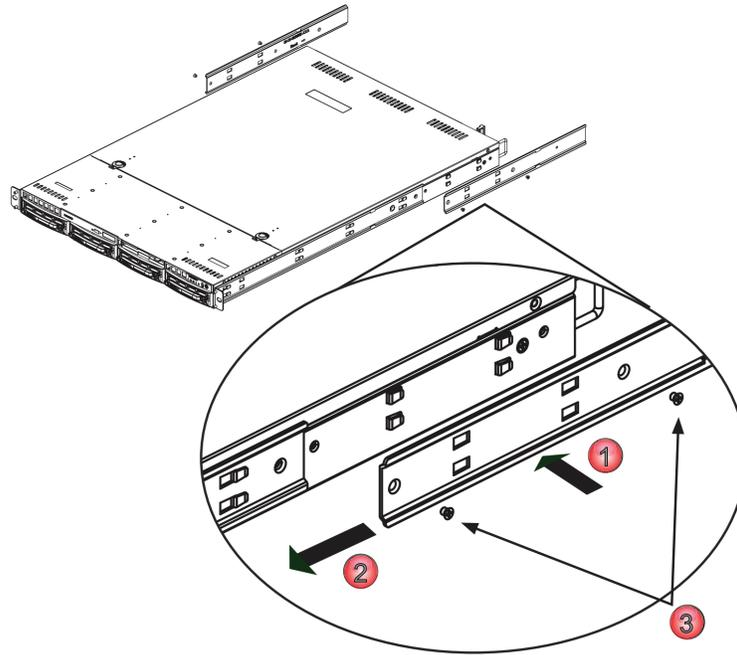

Figure 3-2: Identifying Rack Rail Sections
1. Place the inner rail extensions on the side of the chassis aligning the hooks of the chassis with the inner rail extension holes, Figure 3-2. Make sure the inner rail extension faces “outward” just like the pre-attached inner rail.